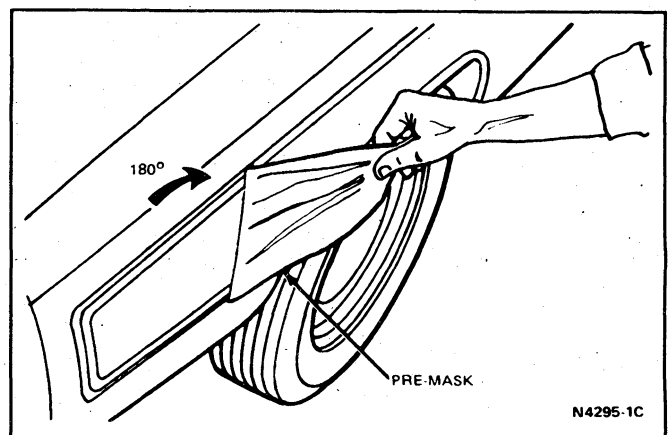

FIG. 4 Removing Pre-Mask Paper
6. Remove pre-mask by pulling at 180-degree angle (knuckles against body panel) away from stripe (Fig. 4). After removal of pre-mask, inspect for bubbles. Remove bubbles as outlined.
6. After the tape stripe is fully installed and squeegeed, remove pre-mask (Fig. 4). An assistant can be very helpful in removing pre-mask from large areas. Wetting pre-mask on large decals may facilitate removal.